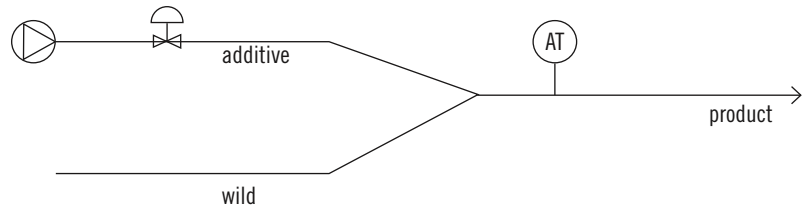

Figure 1: Illustration of a blending process
Figure 1: Located 60 km north of Edmonton, NWR Sturgeon Refinery processes 79,000 bpd of diluted bitumen into several products, but it also contributes 1.2-1.4 MMT/y of CO₂ as a feedstock to the 240-km Alberta Carbon Trunk Line (ACTL). ACTL works with partners Nutrien, Wolf and Enhance to transport and inject CO₂ in wells to improve oil recovery operations, and captures CO₂ for permanent storage. NWR is predicting equipment failures and catching issues earlier with Emerson’s AMS Device Manager software and AMS Snap-On software. Source: NWR
However, the refinery also supports sustainability by producing CO₂ as a key feedstock for the 240-kilometer Alberta Carbon Trunk Line (ACTL), which injects CO₂ in wells to improve oil recovery operations and captures CO₂ for permanent storage. ACTL is reported to be the world's largest pipeline for manmade CO₂ and has a capacity of 14.6 million metric tons per year (MMt/y) to which NWR Sturgeon contributes 1.2-1.4 MMt/y (Figure 1).
Figure 1 illustrates a blending process as an example. The wild flow is process stream. The additive, which may be called a titrant, is added. The additive may be to adjust composition, pH or temperature, for example. Here it's considered composition, and the analyzer transmitter (AT) measures and reports the mixed-stream composition.
While feedforward models can be steady-state, changes in the system dynamics or errors in temperature measurement or the control models upon an upset will still cause the loops to allow some error to occur. If you want to minimize this error, you should add cascade trimming to the feedforward model to provide dynamic compensation. In general, static feedforward control can cut the PID error by approximately half, while dynamic feedforward loops reduce the error to about 10% of the feedback error (Figure 1).
Figure 1: Reductions in the upsets in outlet temperature if the heat exchanger is controlled by PID feedback control, static feedforward control or dynamic feedforward control